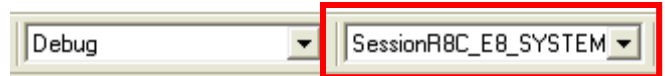

Figure 10: HEW Session Selection
- b.) Use the Session pull-down box and select “SessionR8C_E8_SYSTEM” as shown in Figure 10. If requested to save the session, click <Yes>.